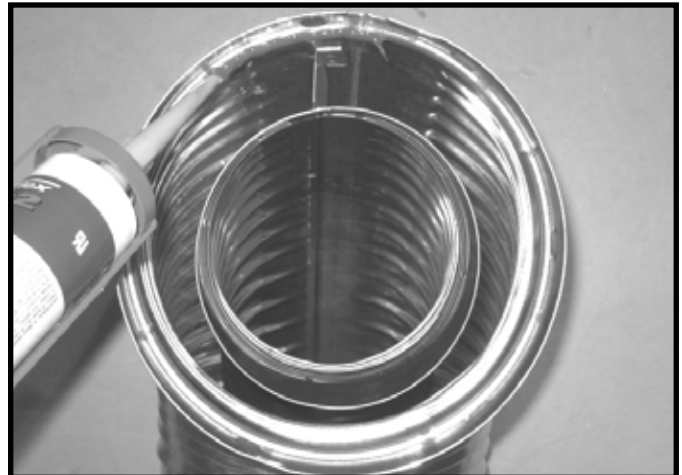

Figure 7.1 High Temperature Silicone Sealant
- Apply a bead of silicone sealant (300 °F minimum continuous exposure rating) inside the female outer pipe joint prior to joining sections. See Figure 7.1. **OR**
- Apply a bead of silicone sealant (300 °F minimum continuous exposure rating) inside the female outer pipe joint prior to joining sections. See Figure 7.1. **OR** Apply a bead of silicone sealant (300 °F minimum continuous exposure rating) to the outside of connecting joint after joining sections **OR** Apply aluminum foil tape (300 °F minimum continuous exposure rating) to the outside of connecting joint after joining sections. On horizontal pipe runs, it is recommended that the tape seam is positioned on the bottom side of the vent pipe.